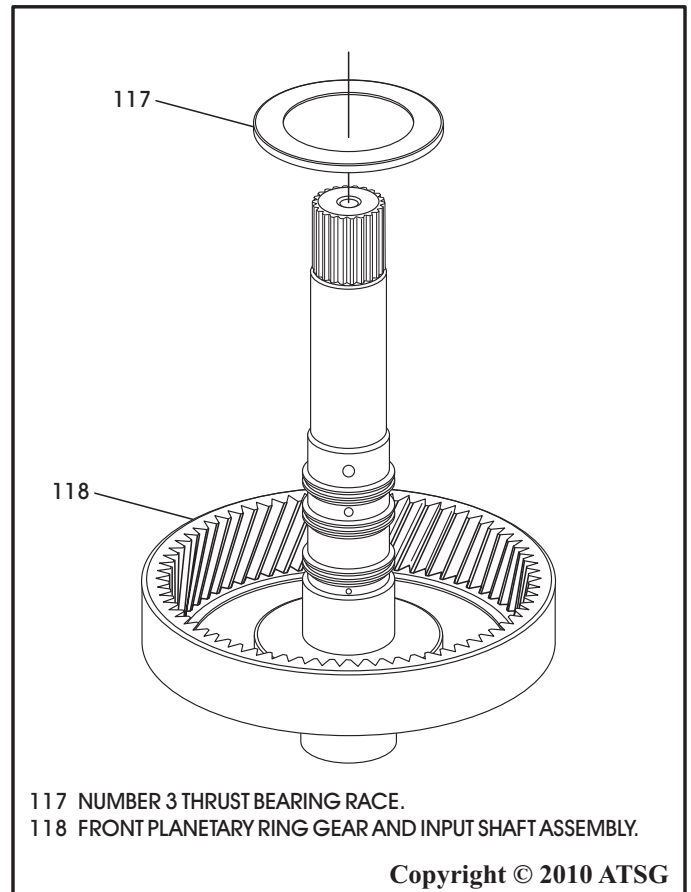

Figure 140
6. Turn assembly over and install the number 3 thrust bearing race, as shown in Figure 140, and retain with Trans-Jel®.